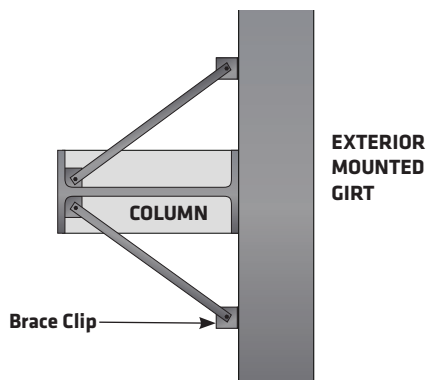

Figure 3
4.1 By-pass mounted wall girts shall be ordered which allows space for full thickness insulation to be installed between the wall panel and the building column. (see Figure 3)
4.2 Brace Clips - Column bracing shall be attached to the interior face of girts using surface mounted clips with multiple self-drilling fasteners or a bolt. (see Figure 3)